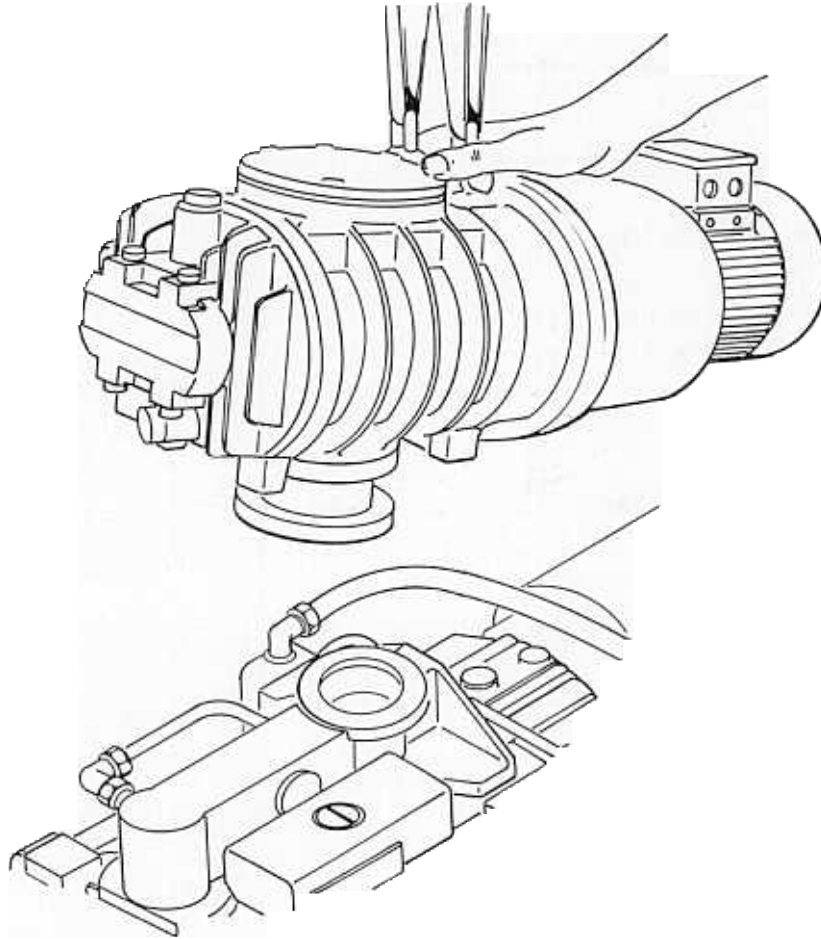

Figure 13 - Fitting the EH250 Booster Pump
7. Using suitable lifting equipment, position the booster pump outlet over the CDP40 i manifold inlet flange as shown in Figure 13.